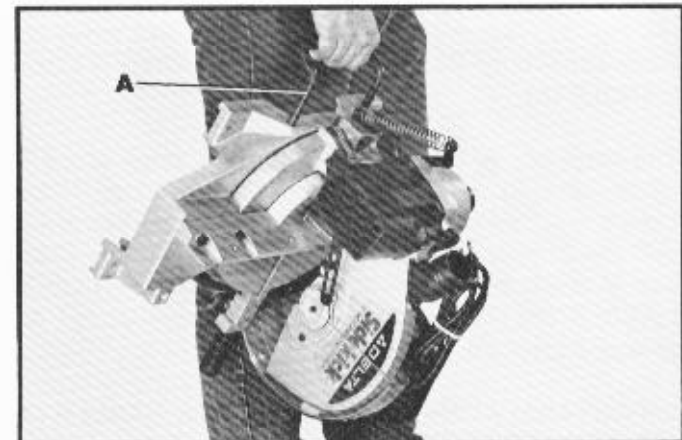

Fig. 21
The support bar (A) also acts as a carrying handle, as shown in Fig. 21, when transporting the saw.